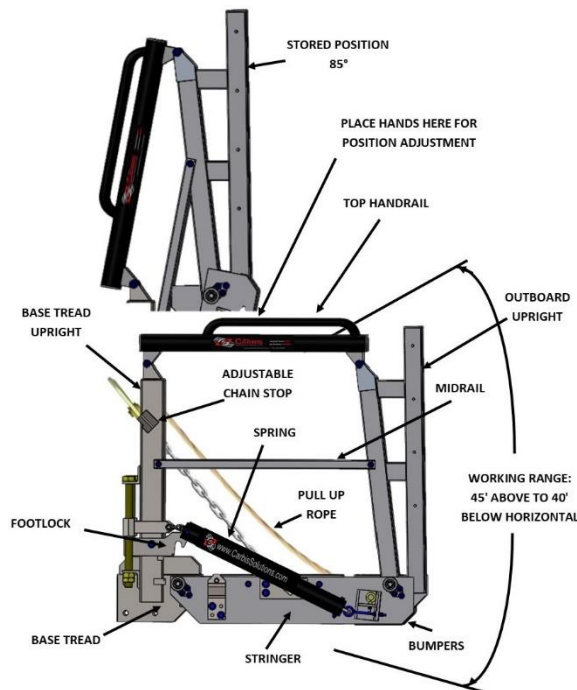

FIGURE 2-1 TCG-1000 GANGWAY GENERAL ARRANGEMENT
a) MECHANICAL EQUIPMENT (SEE FIGURE 2-1.)
- 7) Stringer attached adjustable chains supported by base tread upright mounted slotted tube chain locks when secured hold the gangway in an adjustable position within the normal working range of 45 degrees above to 40 degrees below horizontal **(See FIGURE 2-1).** *The range may be modified within the limits to accommodate options.*